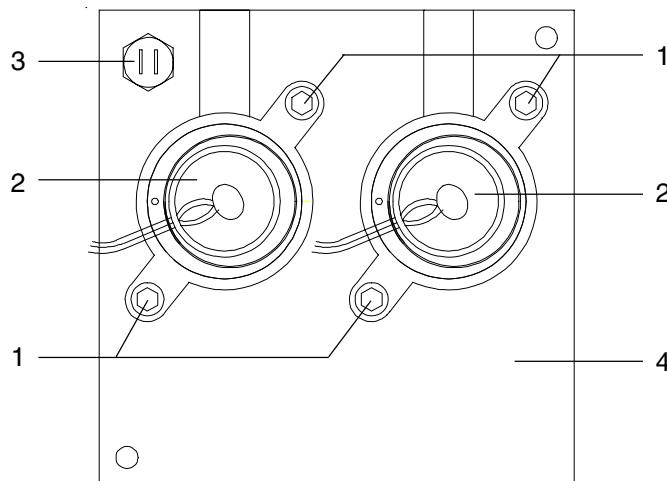

Fig. 17-2: Chopper Housing with IR light sources
17.2 Light Source Replacement (IR)
- Remove the two light source hexagonal mounting screws (shown in Fig. 17-2 as Item 1).
- Insert and tighten the two light source hexagonal mounting screws (Fig. 17-2).
- Slightly loosen the light source mounting screws (shown in Fig. 17-2 as Item 1) for correspondend channel.
- Tighten the light source mounting screws (shown in Fig. 17-2 as Item 1) for correspondend channel.